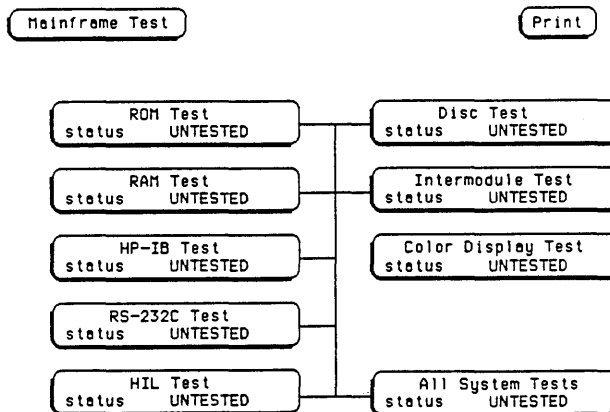

Figure 6-7. Mainframe Test Menu
e. Touch the Test System field and select Mainframe Test from pop-up menu. The Mainframe Test menu will now be displayed (figure 6-7).